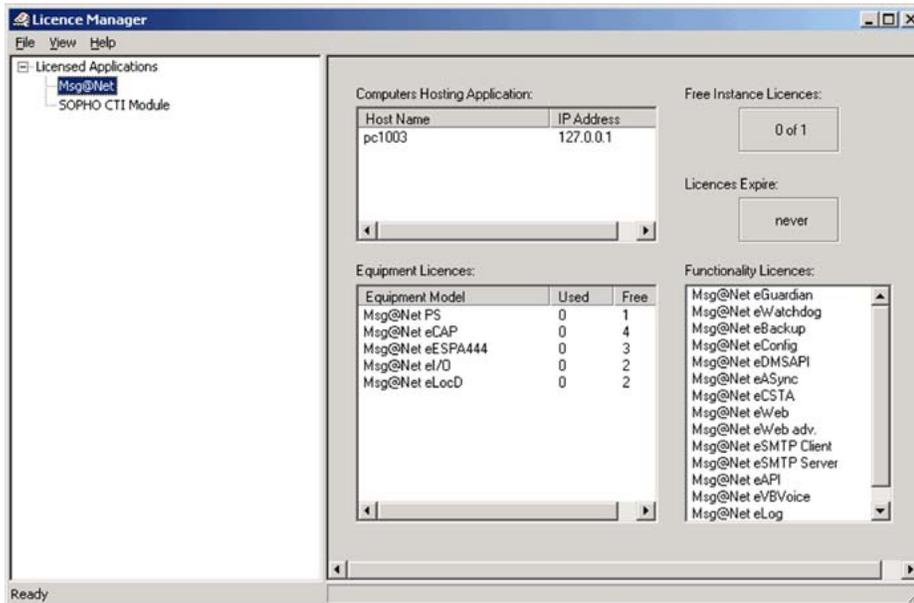

Figure 16: DECT Messenger License Manager
- DECT Messenger License Manager. See Figure 16: DECT Messenger License Manager on page 68.
Figure 16: DECT Messenger License Manager on page 68 shows the License Manager.
Figure 16: DECT Messenger License Manager on page 68 also shows the CTI application as a licensed application. You require this CTI application license only if a connection exists to the DECT system.